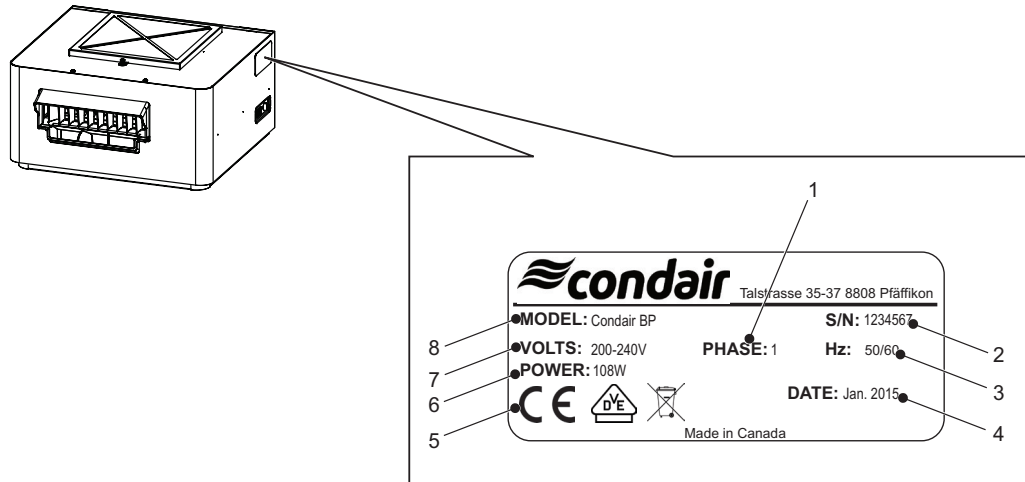

Figure 2: Condair Blower Pack Specification label
- Verify the model type on the specification label to ensure that it is suitable for your installation. Refer to Figure 2 on page 11.
The specification label on the side of the blower pack shows its model type, serial number and other rating details. Refer to Figure 2.
- ☐ The available voltage and phase of the power supply should match the requirements for the blower pack, as indicated on the specification label. Refer to Figure 2 on page 11.